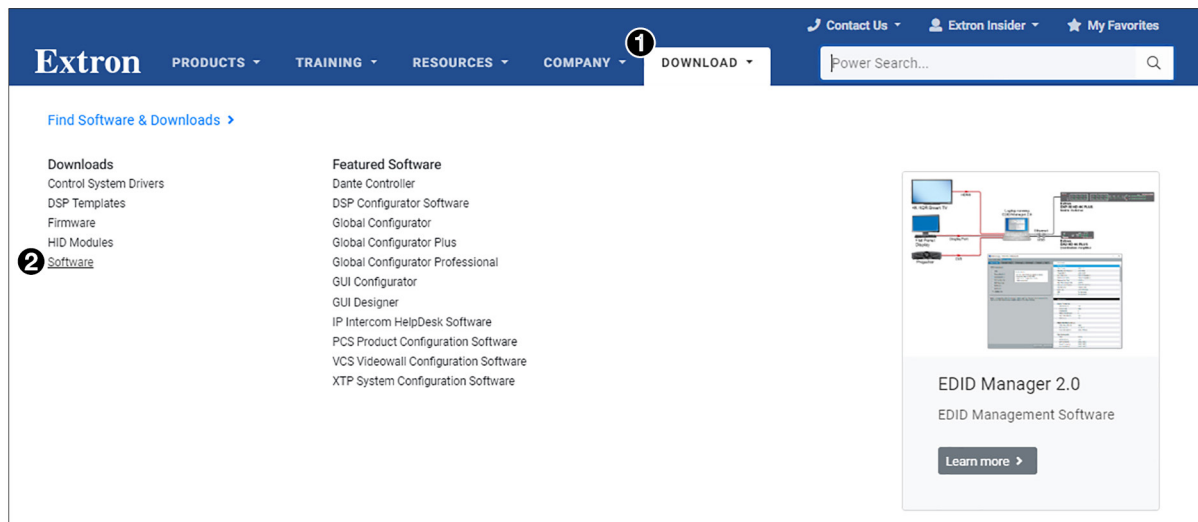

Figure 21. Software Link on the Download Page
1. On the Extron website, select the **Download** tab (see figure 21, ①).